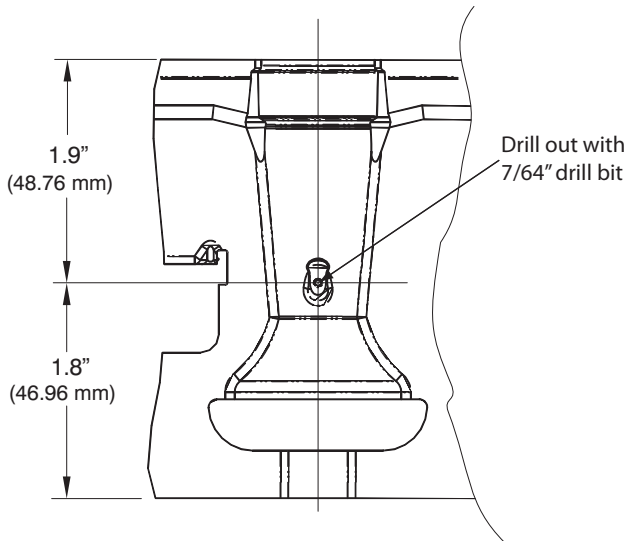

Fig. 7 - Mixer Screw Location
3. If you cannot locate the dimple, refer to Fig 7 for location of the mixer screw.